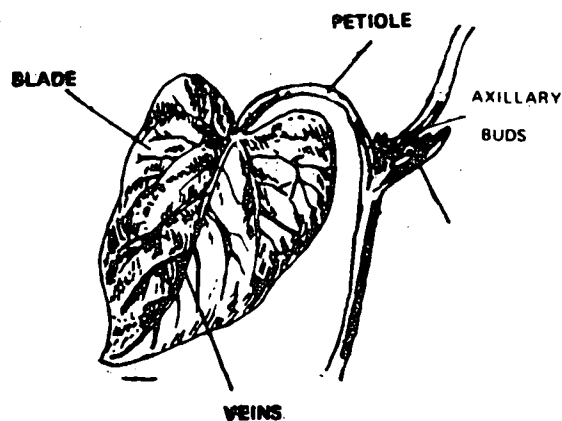

Fig. 13
This elaboration organ is composed of blade, petiole, base and veins (Fig. 13).
- *simple*; they have only one blade with or without petiole (Figs. 13 and 14).
- *entire* (Figs. 13 and 14) and